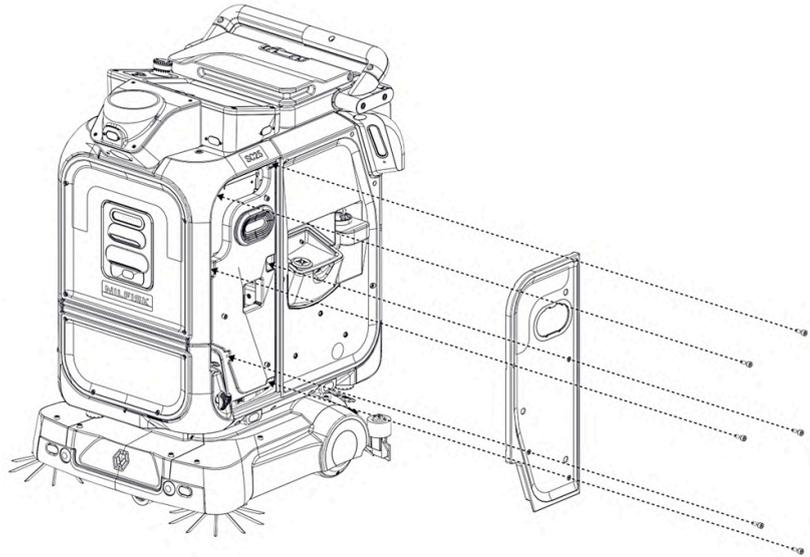

FIGURE 7-10
- Remove the Left Side Panel (**26**) and locate the router in the machine (**Fig. 7-10**).